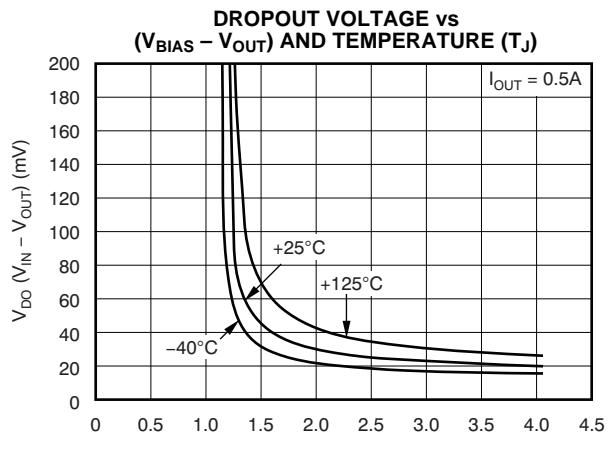

Figure 8.
(1) Adjustable devices tested at 0.8V; resistor tolerance is not taken into account.
(2) Dropout is defined as the voltage from  $V_{IN}$  to  $V_{OUT}$  when  $V_{OUT}$  is 3% below nominal.
(3) 1.62V is a test condition of this device and can be adjusted by referring to Figure 8.
(1)  $1.62V$  is a test condition of this device and can be adjusted by referring to Figure 8.